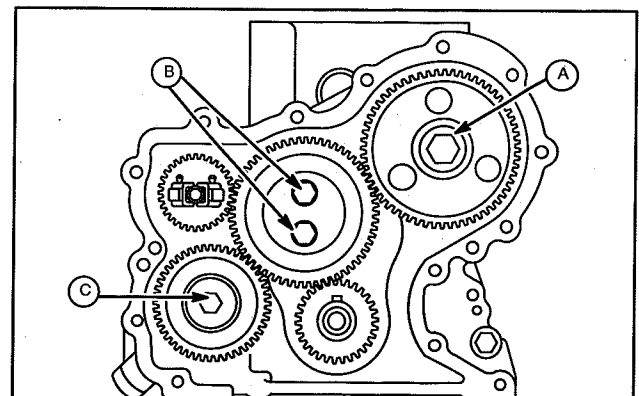

Fig. 20 - Torque Screws
6. Torque screws as shown, Fig. 20.